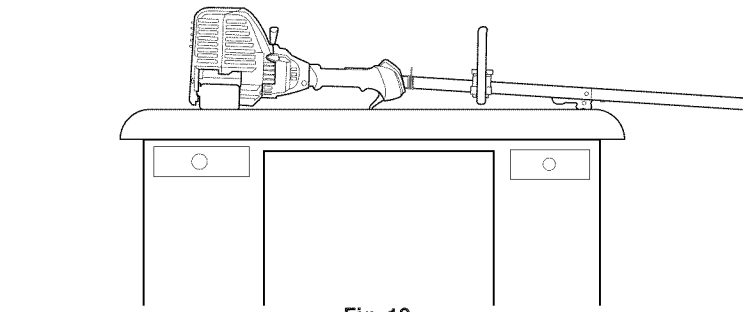

Fig. 19
2. **Set the unit on a flat, level surface**, such as a workbench or table. The cutting head shield should hang over the edge so that the engine is level (Fig. 19).